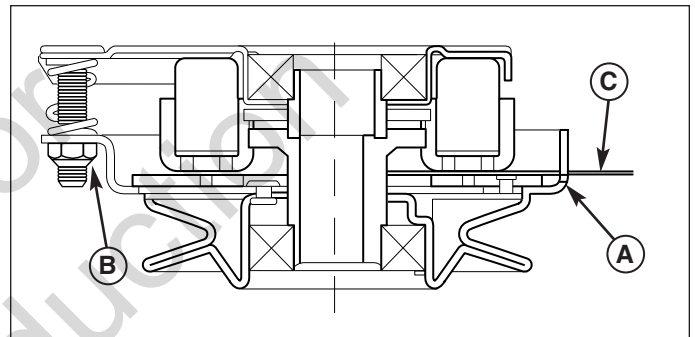

Figure 30. Adjust PTO Clutch
3. Insert a .012"-.015" (2,5-4 mm) feeler gauge (C, Figure 30) through each window, positioning the gauge between the rotor face and the armature face.
4. Alternately tighten the adjustment nuts (B) until the rotor face and armature face just contacts the gauge.